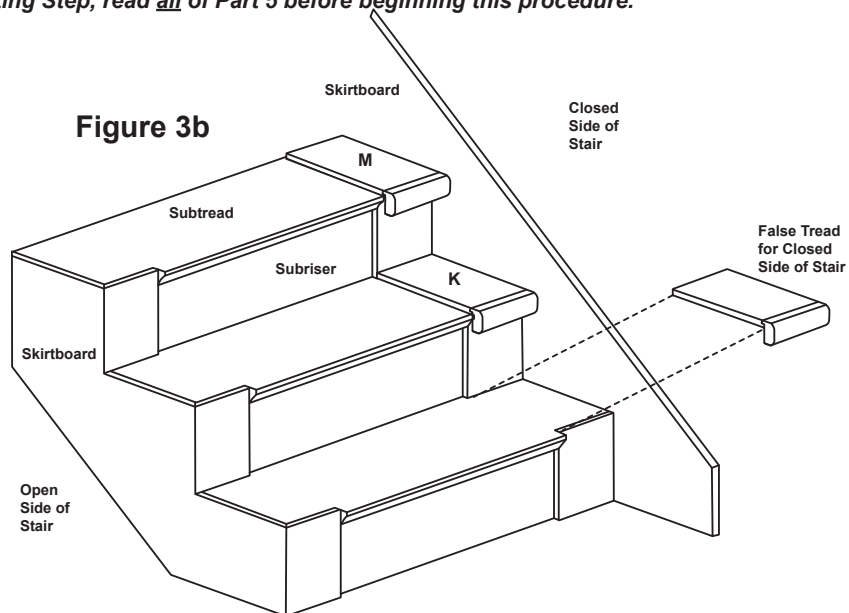

Figure 3b
3. Install the assembled false treads to the stair using glue and finish nails **M**. (See Figure 3b.)